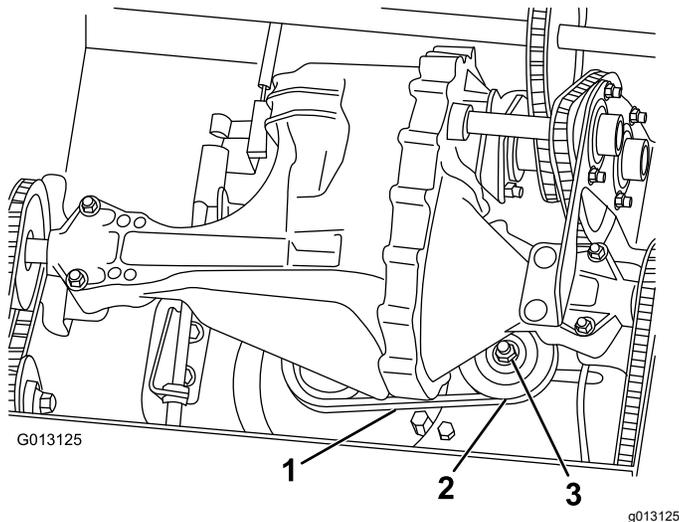

Figure 34
3. Push on a span of the drive belt with 9 kg (20 pounds) of force (Figure 34). If the belt flexes more than 3 mm (1/8 inch), tighten it as follows:
- A. Loosen the nut securing the idler pulley (Figure 34).